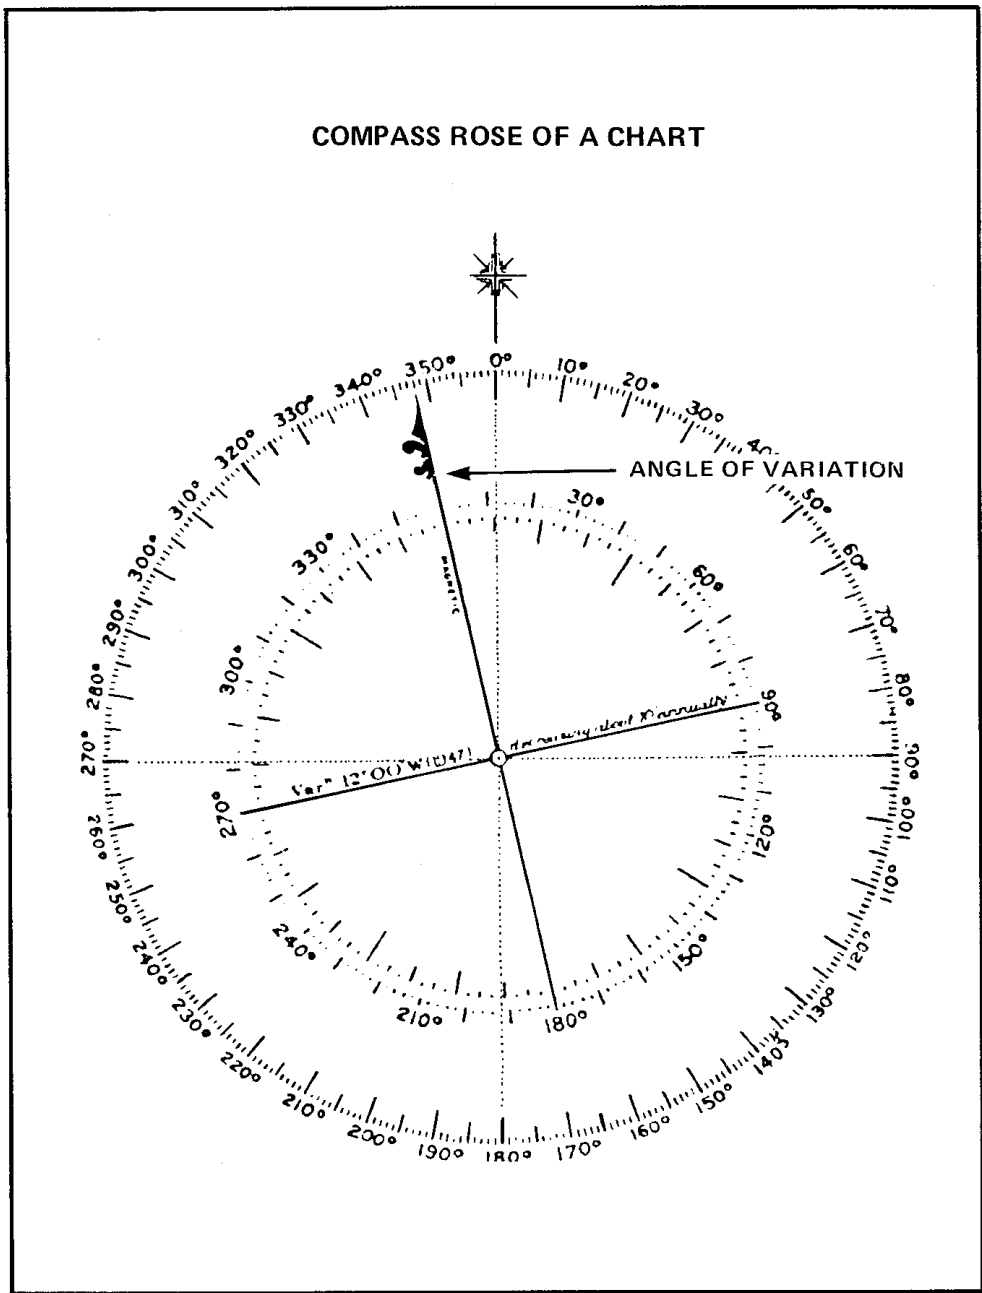

Figure 7-2 Compass Rose of a Chart
7. **Compass Roses of Charts** — The directions in which the magnetic meridians run, and their annual change, are accurately known, however, and the amount of variation at any place can be calculated with sufficient accuracy for most purposes of navigation. The variation at any place, together with its annual change, is indicated on the **compass roses of charts** (see Figure 7-2), so that a magnetic direction can be converted to a true direction, or vice versa, by simple addition or subtraction.